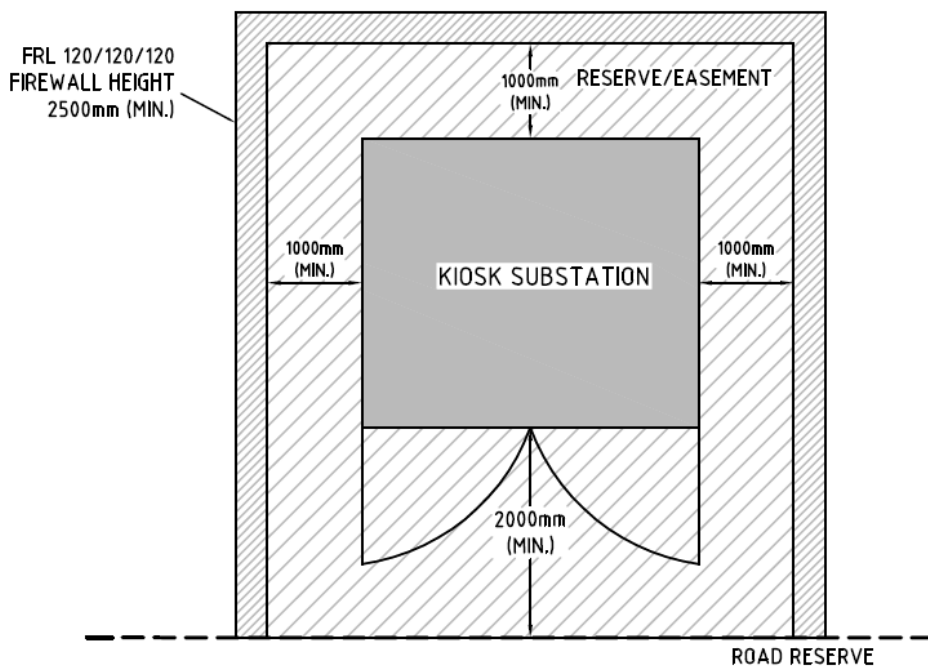

Figure 5 – Square Type 2 with Two Hour Fire Rated Wall
- 5.5. **Long Kiosk (existing sites only)** – Kiosk substations are installed in reserves/easements located in parks, etc. Kiosk transformers have HV and LV compartments accessible from the front and the rear ends respectively. Kiosk doors open in kiosk reserve / easement as shown in fig 5. The minimum kiosk reserve/easement requirements are given in table 2.